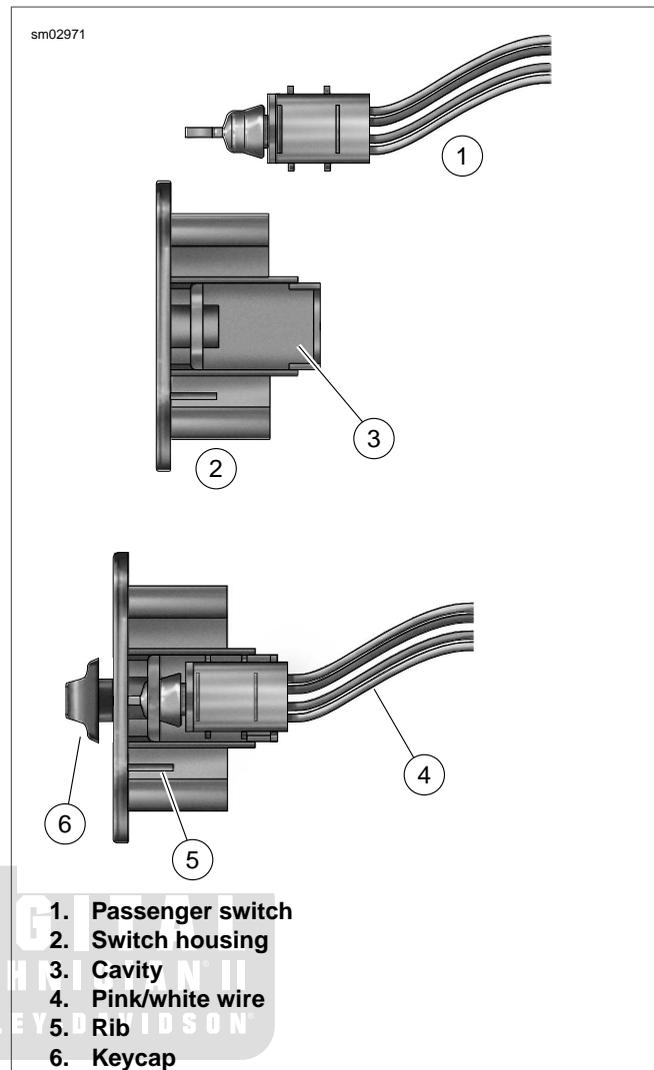

Figure 8-95. Install Switch in Housing
3. With the Pink/White wire at the bottom, place switch in cavity of switch housing. Bottom of assembly is determined by location of rib on switch housing. See Figure 8-95.